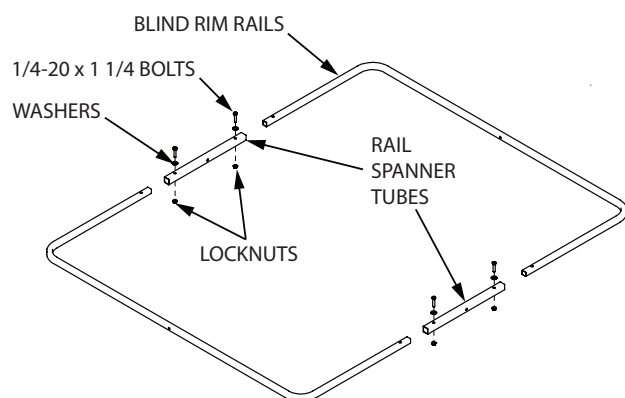

FIGURE 5
- a. Insert (2) blind rim rails (TWR19) into (2) rail spanner tubes (TWR26) forming a square. Align the four holes and insert (4) provided 1/4-20 x 1-1/4" bolts, locknuts and washers. **SEE FIGURE 5.**